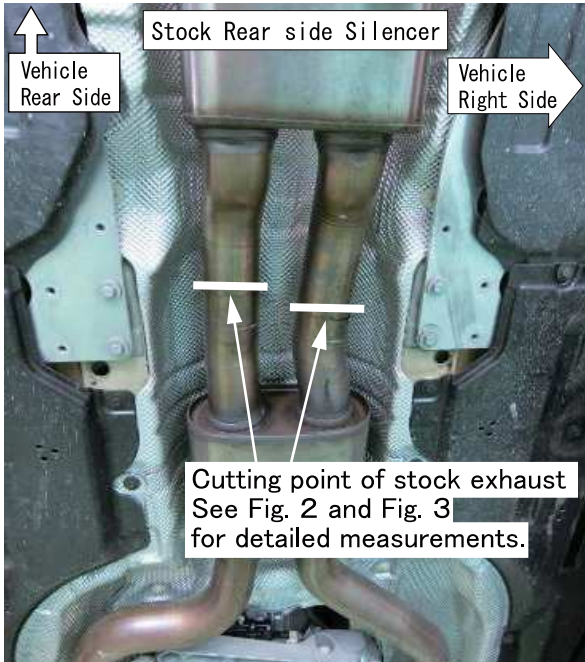

Fig.1 Cutting point of stock exhaust
- (1) Remove the stock floor panel brace.
- (2) Cut the stock exhaust using the special service tool, referring to the Fig. 1 to 3.